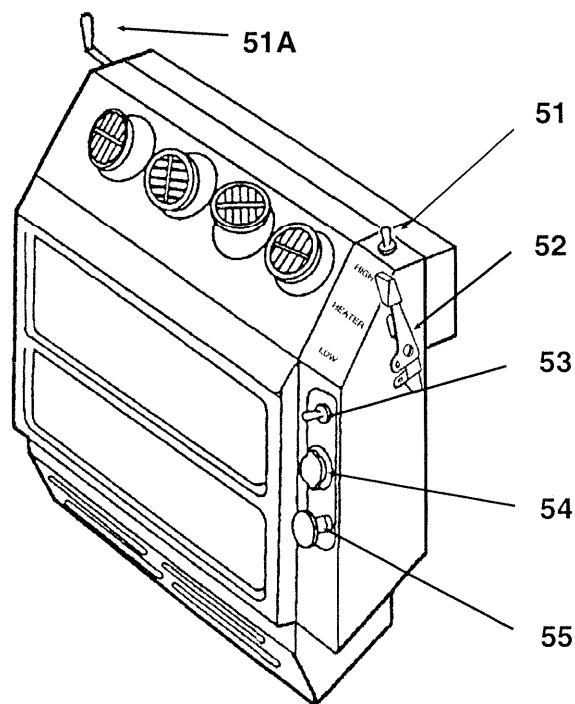

Fig. 3-15 Air Conditioner/Heater
**51. Fan Switch** See Fig.3-15
**51A. Defroster Control** See Fig.3-15
**52. Heater Control Knob** See Fig.3-15
**53. Heater / Air Conditioner Selection** See Fig.3-15
**54. Air Conditioner Control** See Fig.3-15
**55. Air Source Control** See Fig.3-15